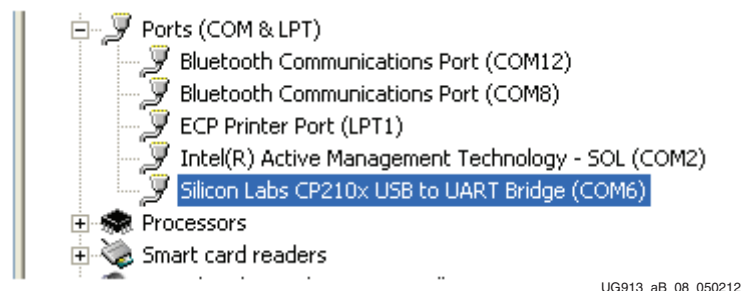

Figure A-1: Silicon Labs USB to UART Bridge Properties
6. Expand the **Ports (COM & LPT)** entry as shown in Figure A-1. This shows the COM port assigned to the **Silicon Labs CP210x USB to UART Bridge**. This is the COM port to use in the serial communications program.
Note: The COM port setting for the user system might be different from the one shown in Figure A-1.